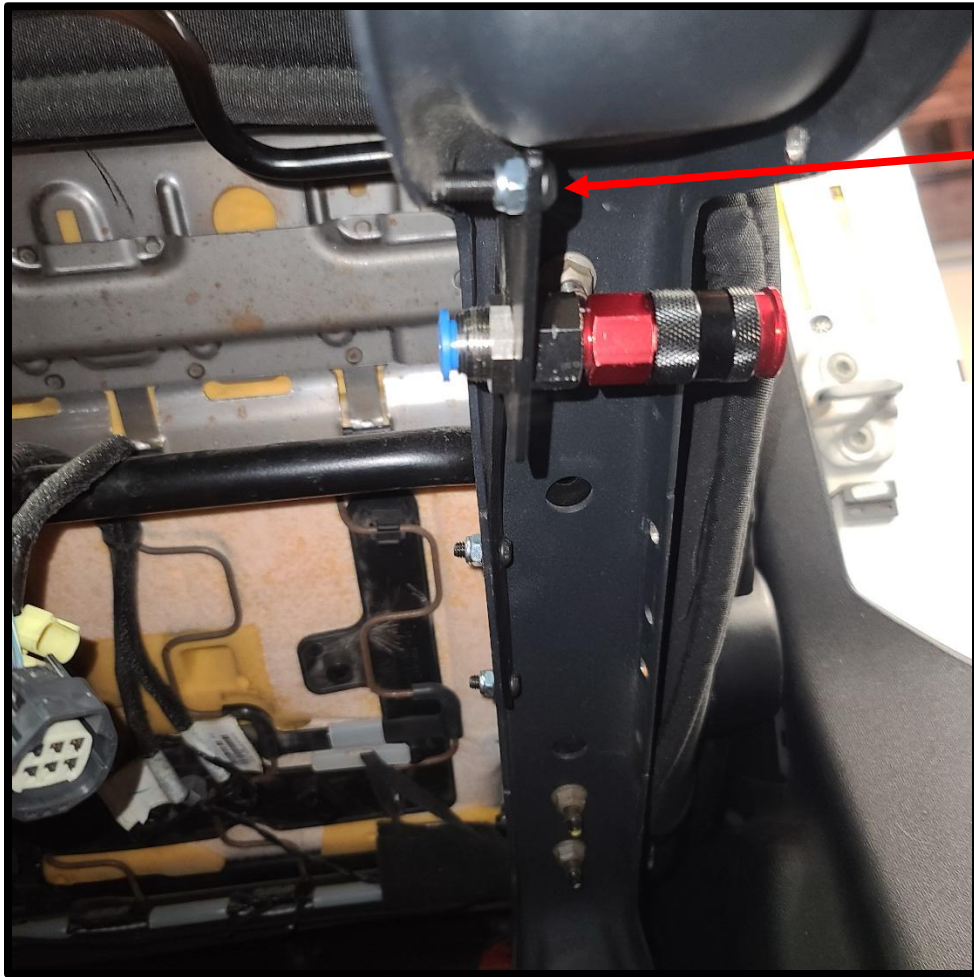

Figure 10
- 2-L) Mount the seat bracket as shown in **Figure 10** making sure you leave the preinstalled bolt / nut in place. It does not need to be bolted to the frame rail. Due to the shape of the seat frame rail, it is there to angle the coupler for easier access. Typically, the coupler will still be pointed down slightly and now is a good time to pull up on the coupler to slightly bend the seat bracket, so the coupler is directed straight out (makes it easier to connect y-connector when airing tires).